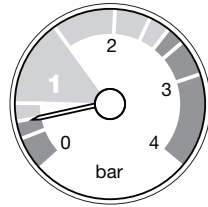

Fig. 2
4. The minimum pressure for correct operation is 0.5. If the pressure falls below 0.5, this may indicate a leak on the central heating system (Fig. 2).